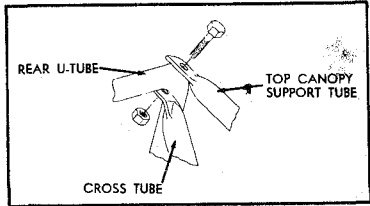
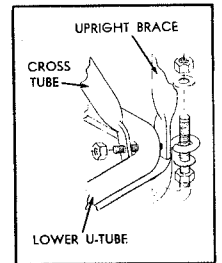

FIGURE 9
FIGURE 10
13. Assemble the rear of the top canopy support tubes (52) to the outside and the cross tubes (56) to the inside of the top rear U-Tube (55) using $\frac{5}{16}$ -18 Bolt and nut as shown in Figure 9.
14. Insert Upright Braces (54) into Hose Adapter Assembly Tube (53) and Top Rear U-Tube (55).
15. Make loose connection of Front Upright Braces (54), Lower U-Tube (55), and Cross Tubes (56) using eyebolts as shown in Figure 10.
22. Turn up corners of canopy and fasten unit to trailer bed as shown in Figure 10. NOTE: Check to make sure side dust seals are still in proper location.